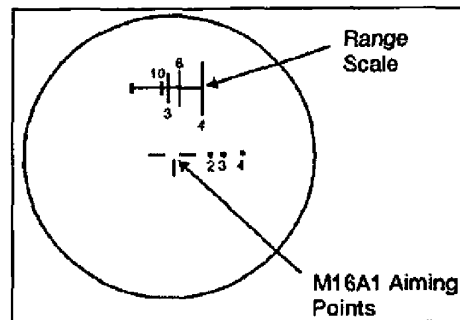

Figure 071-315-2308-1. Sight reticle
2. Use the sight reticle. When used with the rifle, the AN/PVS-4 sight reticle consists of two parts (figure 071-315-2308-1).